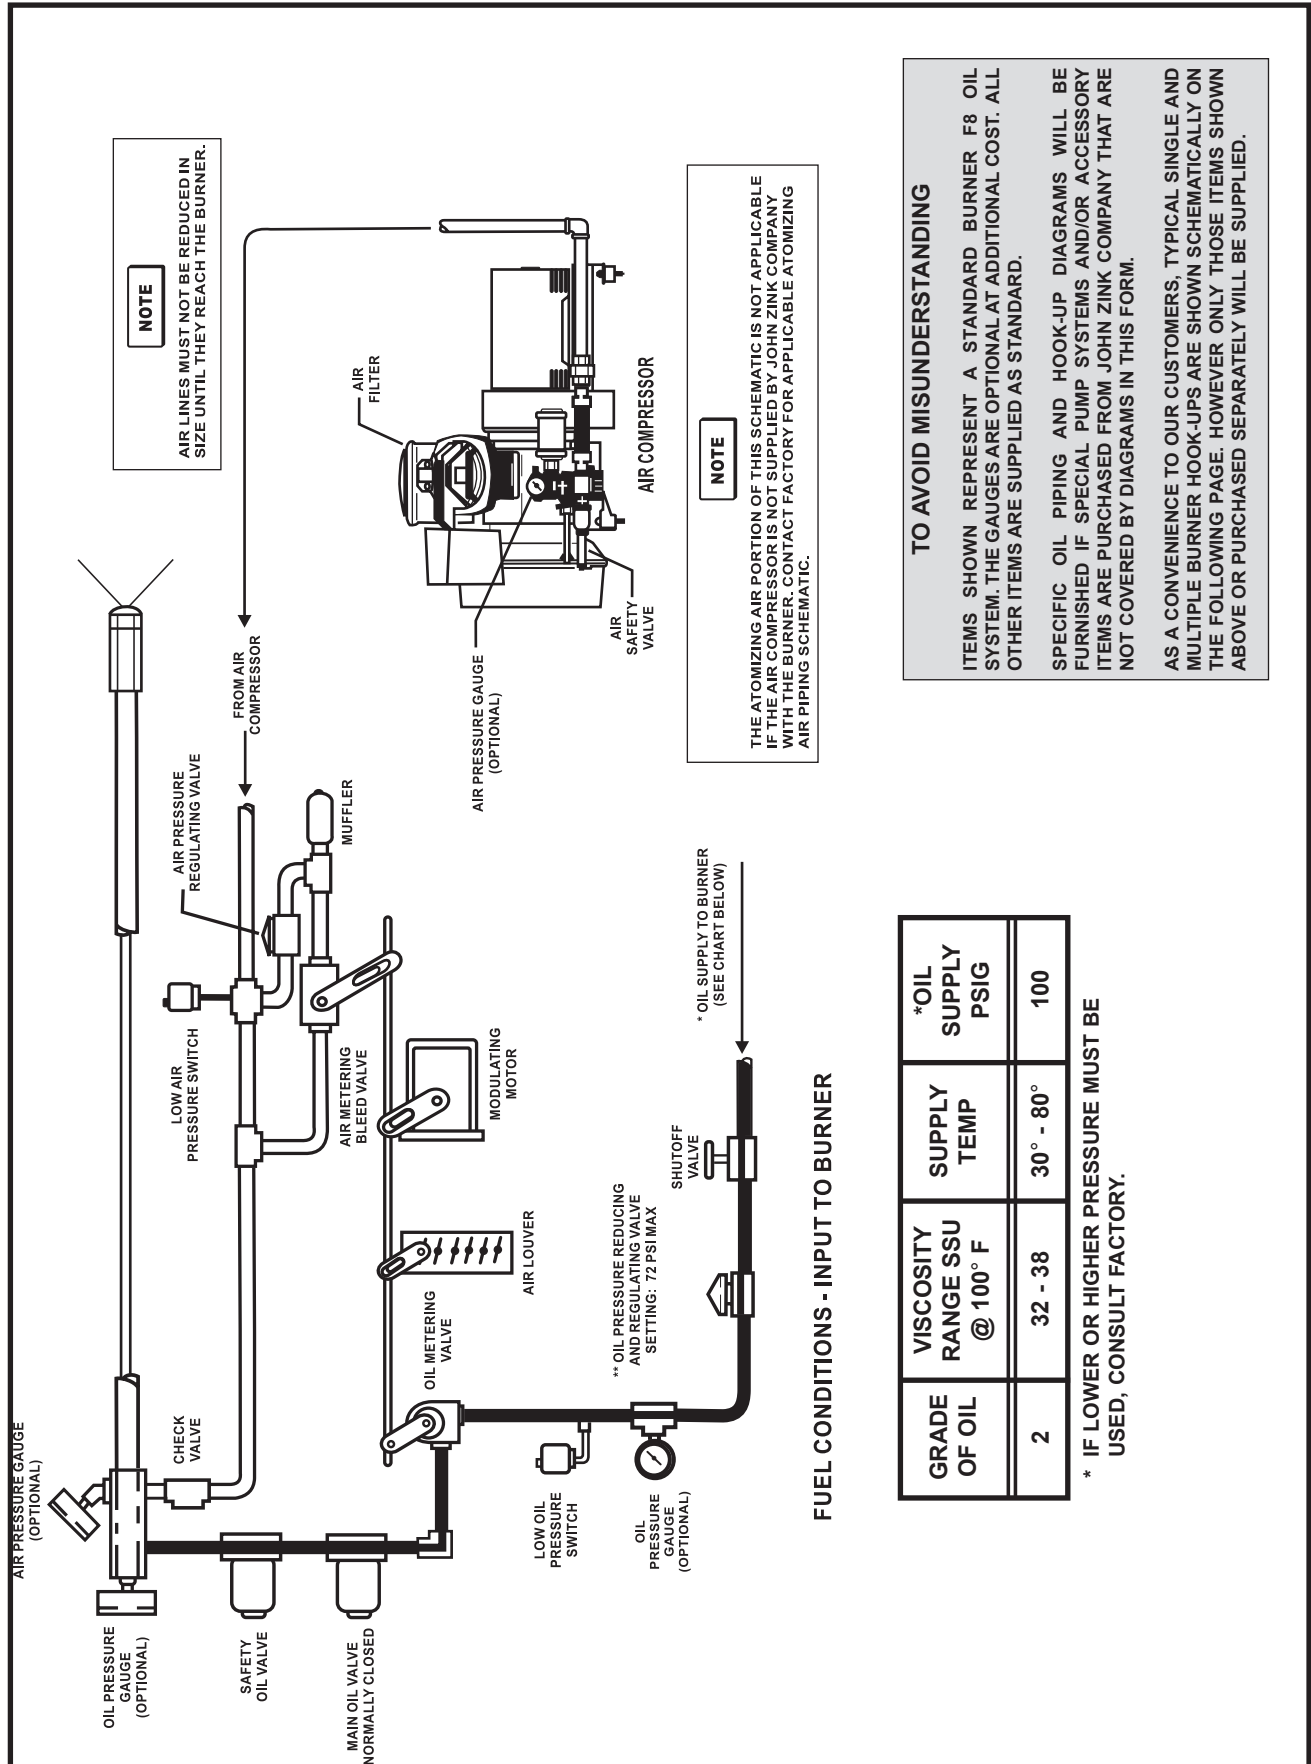

Figure 4-2 TYPICAL NO. 2 OIL SYSTEM SCHEMATIC (Shown in Firing Position)
4. **OIL SYSTEMS** - Refer to Figures 4-2 and 4-3 for basic piping diagrams. For detailed information, refer to the specific catalog sheets or drawings supplied with your burner.